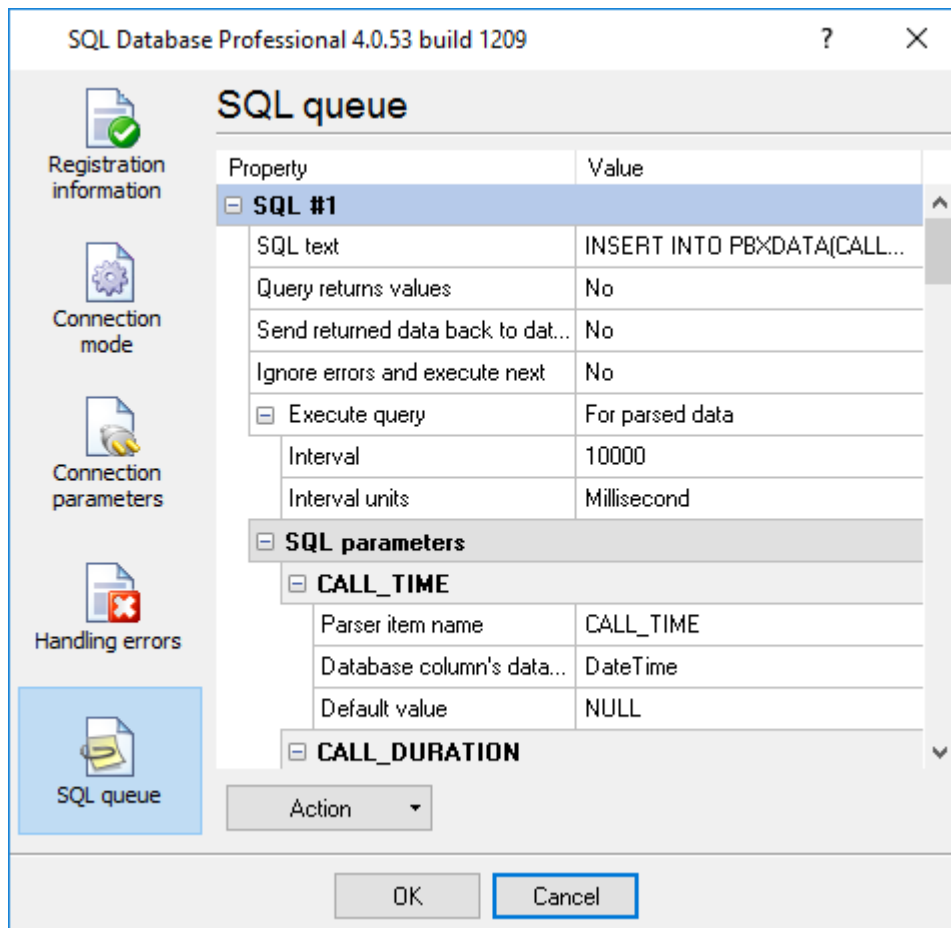

Figure 5. SQL queue
8. Switch to the "SQL queue" tab (Figure 5).